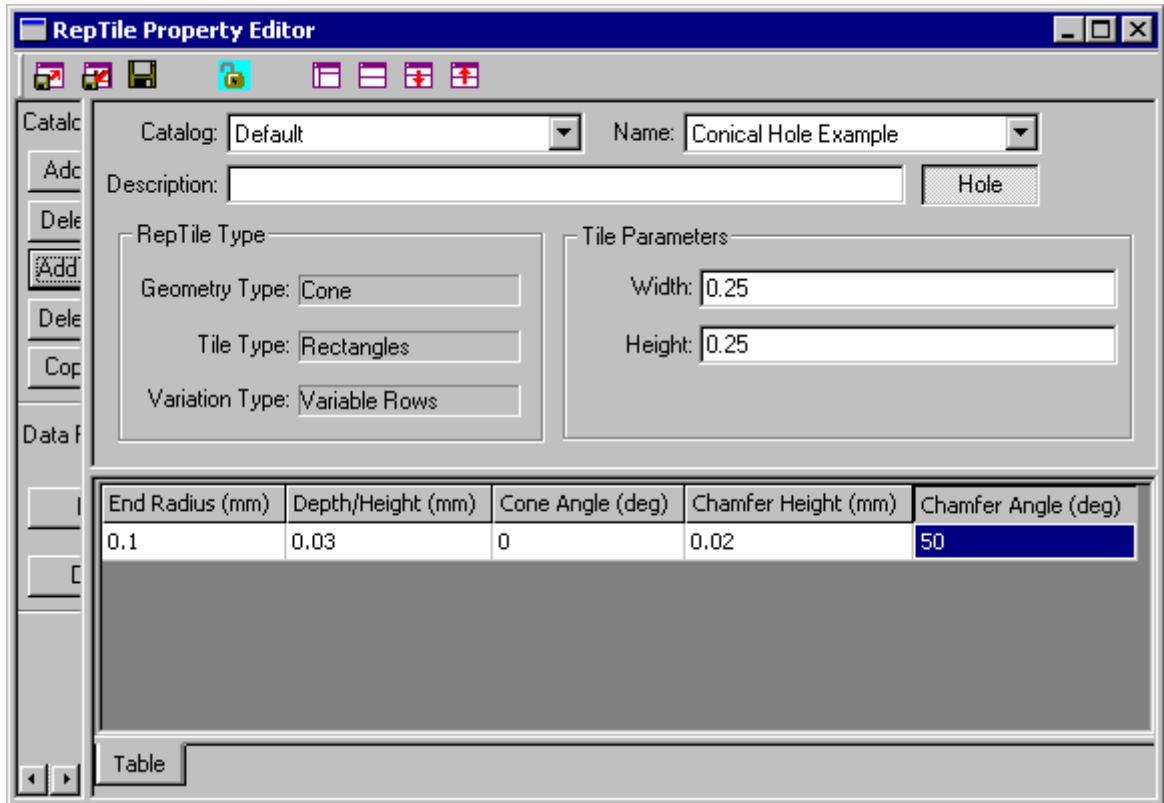

FIGURE 9.14 - Completed template for Conical Hole property example.
- Enter the geometry values above into the appropriate columns in the table. The entries should appear as in Figure 9.14.